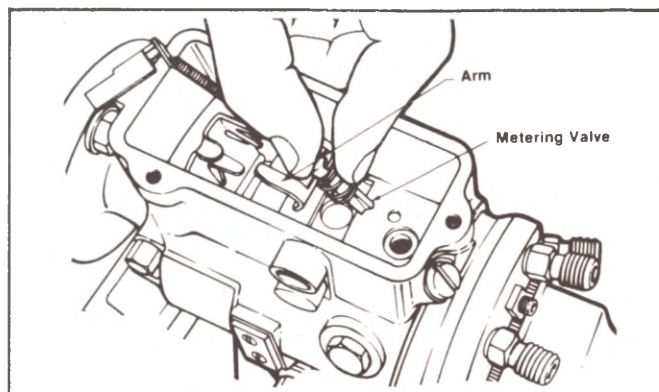

Fig. 3-13 Metering Valve.
14. Hook the governor linkage assembly to the metering valve. Figure 3-13. Check linkage for freedom.